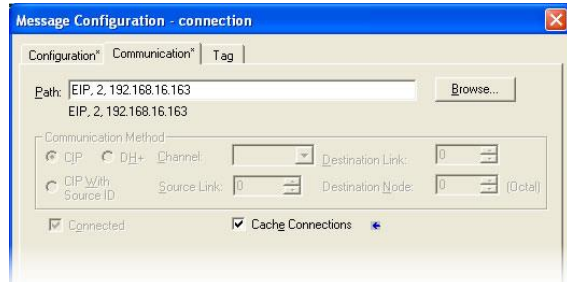

Figure 44: Setting the Communication Path
- d) "Communication" tab settings (refer to Figure 44):